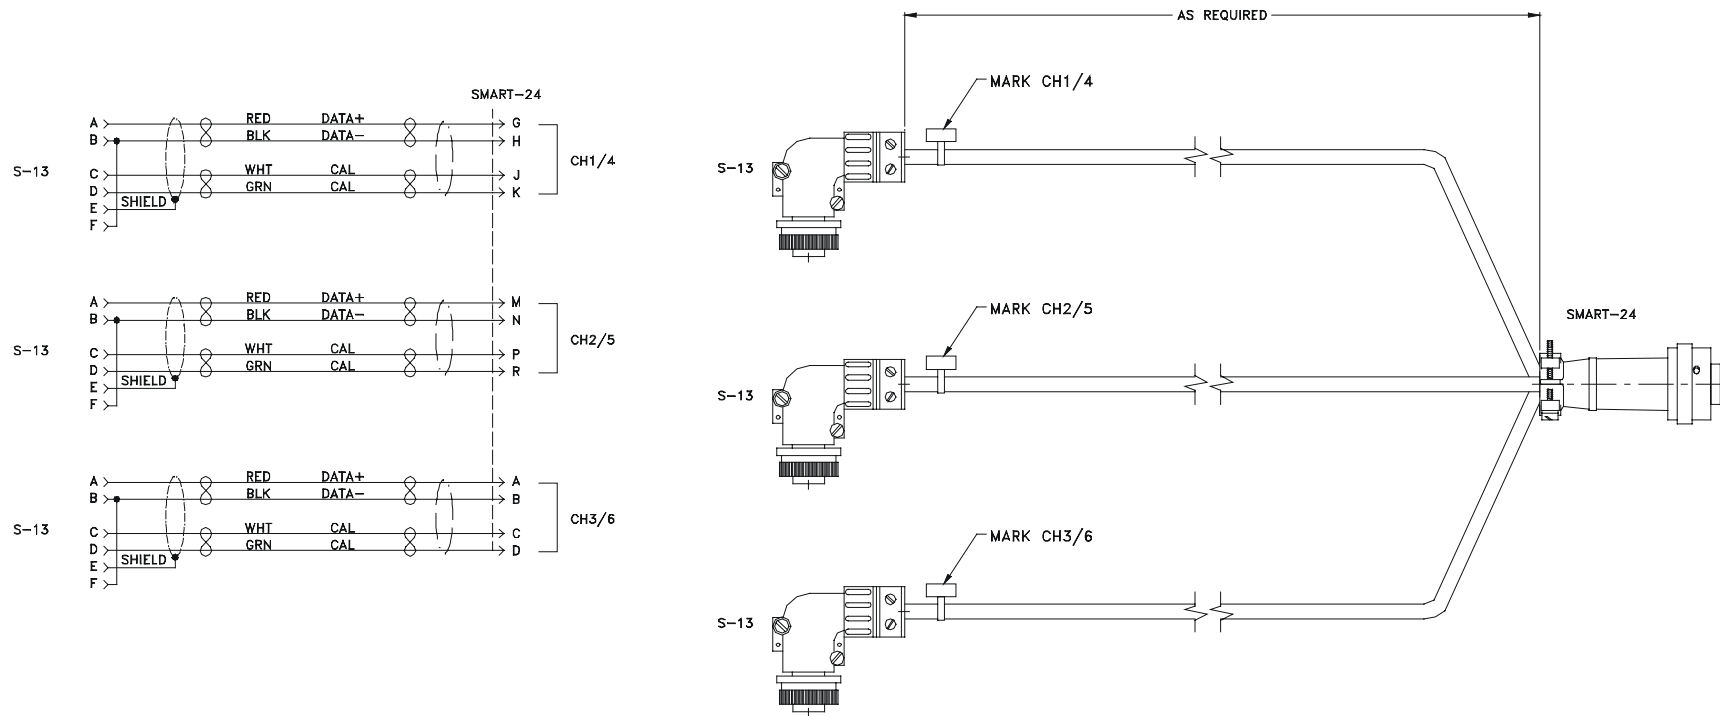

Figure A-11. SMART-24 to S-13 Cable
- Figure A-11. SMART-24 to S-13 Cable